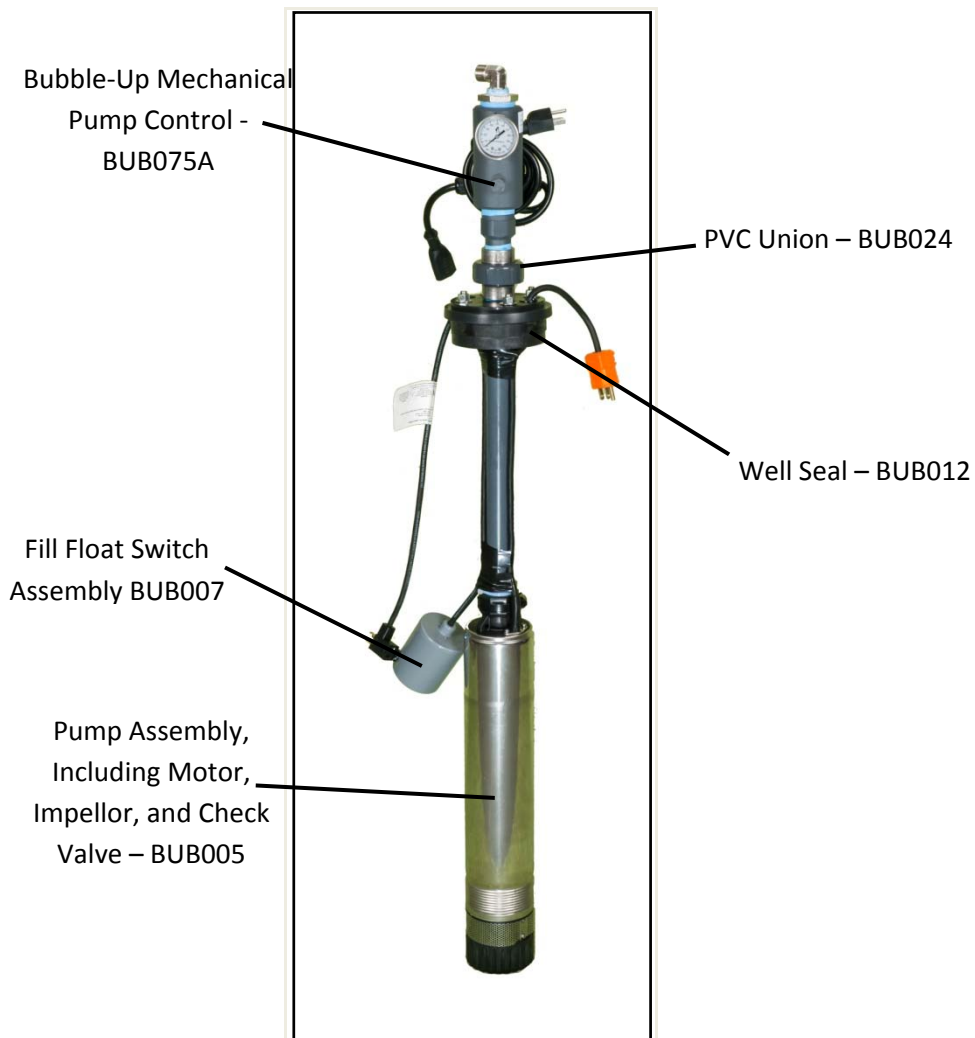

Figure 10 - Pump Assembly with Control
7. Lift and pull out fill float switch and then pump from the main water tank. See Figure 10.